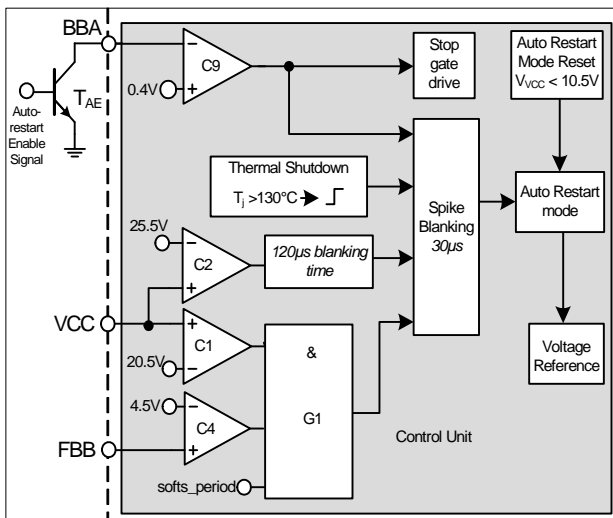

Figure 29 Vcc OVP, OTP, external protection enable
Vcc OVP (1) condition is when  $V_{VCC}$  voltage is  $> 20.5V$ ,  $V_{FBB}$  voltage is  $> 4.5V$  and during soft start period, the IC enters into odd skip Auto Restart Mode. This condition likely happens during start up at open loop fault. (Figure 29).
Vcc OVP (2) condition is when  $V_{VCC}$  voltage is  $> 25.5V$ , the IC enters into odd skip Auto Restart Mode (Figure 29).
The over temperature protection OTP is sensed inside the controller IC. The Thermal Shutdown block keeps on monitoring the junction temperature of the controller. After detecting a junction temperature higher than  $130^{\circ}C$ , the IC will enter into the non switch Auto Restart mode. The F3R80 has also implemented with a  $50^{\circ}C$  hysteresis. That means the IC can only be recovered when the controller junction temperature is dropped  $50^{\circ}C$  lower than the over temperature trigger point (Figure 29).
base pin of an external transistor,  $T_{AE}$  at the BBA pin. When this function is enabled, it will enter into the non switch auto restart mode. The gate drive is stopped and there is no switching pulse before it is recovered (Figure 29).